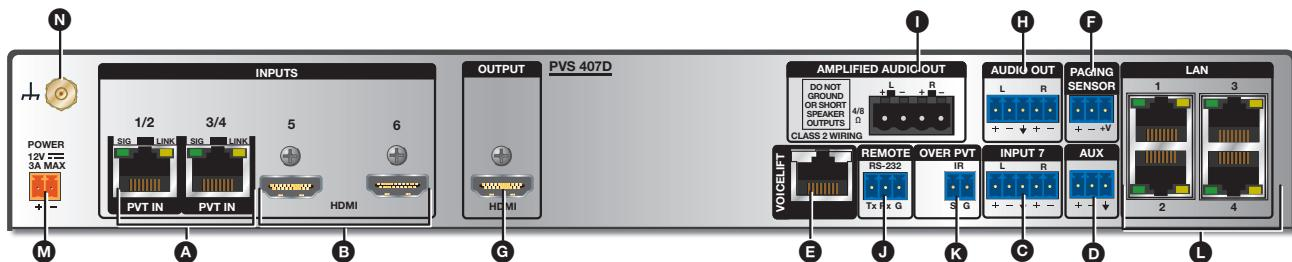
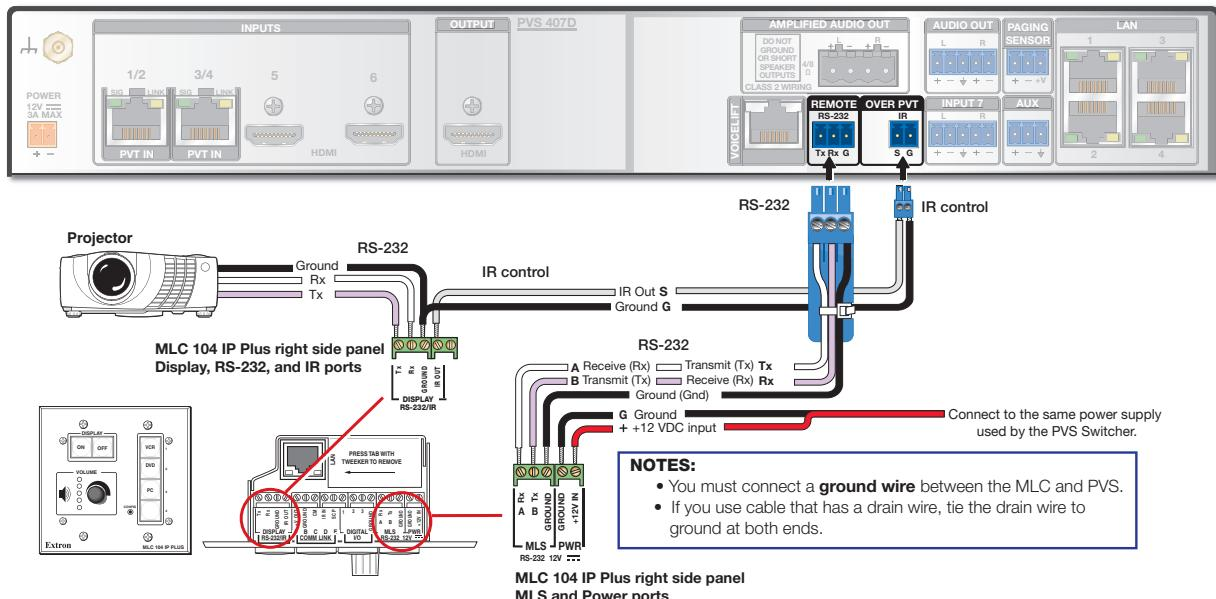

Figure 3. PVS 407D Rear Panel Features
Figure 4. MLC 104 IP Plus RS-232 and IR Connections to the PVS 407D
- B Inputs 5 and 6** (see **figure 3** on previous page) — Connect up to two HDMI sources (such as an Extron ShareLink device) to these female HDMI digital video connectors. Use the Extron LockIt device to secure the HDMI cable at the switcher (see **Securing the HDMI Cable** on page 9 for securing the cable).
- J Remote RS-232 control port** (see **figure 3** on page 5) — Connect a host computer, control system, or MLC controller to this 3.5 mm captive screw 3-pole connector for direct switcher control via RS-232 (see **figure 4** below).
- K Over PVT (IR insert port)** — For IR control for a source device, connect the IR port on the MLC to this 3.5 mm captive screw 2-pole connector (see **figure 4** below). This routes IR transport control signals via an IR device connected to the PVT wallplate front panel.